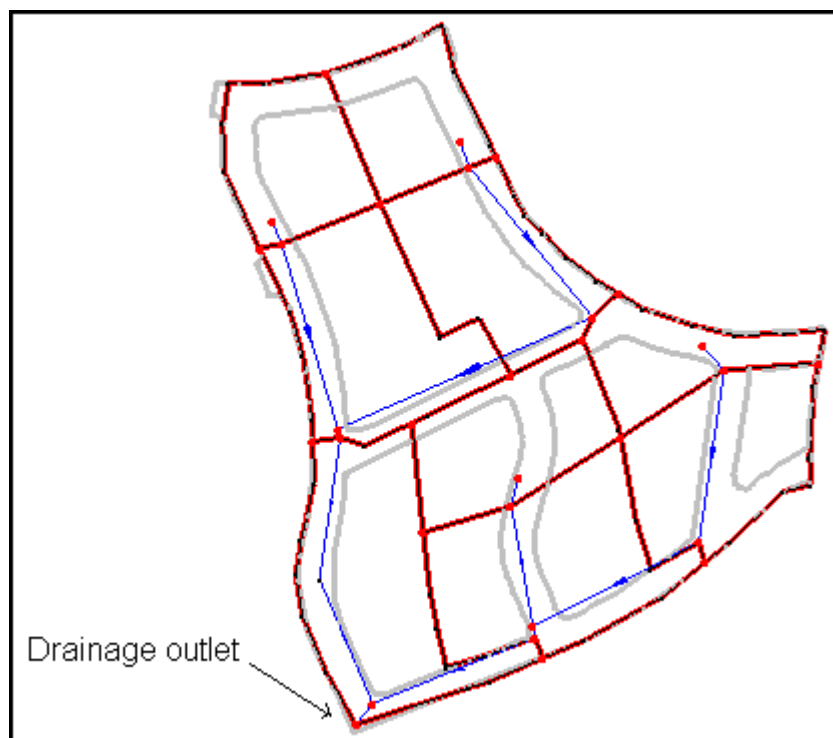

Figure 5-1: Drainage basins and streams for the subdivision.
Figure 5-1 shows how the layout should look.
12. Double-click on the node labeled Drainage Outlet in Figure 5-1